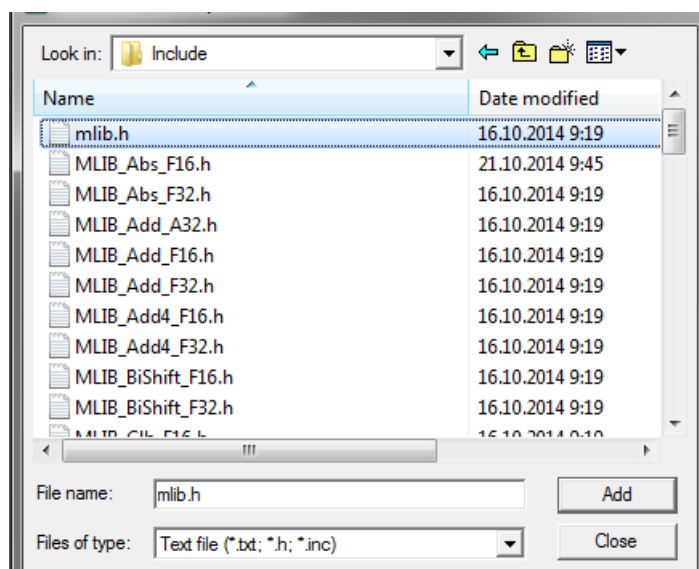

Figure 1-31. Adding .h files dialog
- Navigate into the library installation folder C:\NXP\RTCESL\CM0_RTCESL_4.6_KEIL\MLIB\Include, and select the *mllib.h* file. If the file does not appear, set the Files of type filter to Text file. Click Add. See Figure 1-31.